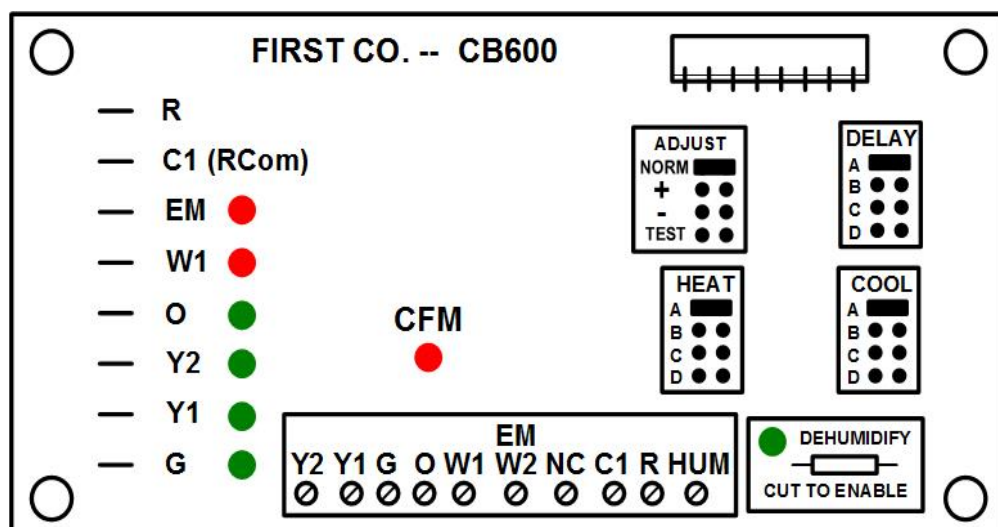

FIGURE 5. - Select Control Board
**COOLING SELECT TAP** Select system airflow for cooling output. (See Figure 5.)
**HEATING SELECT TAP** Select system airflow for heat output. (See Figure 5.)
**ADJUST SELECT TAP** Select system CFM airflow requirement. (See Figure 5.)
**DELAY SELECT TAP** Select desired delay profiles. (See figure 5.)